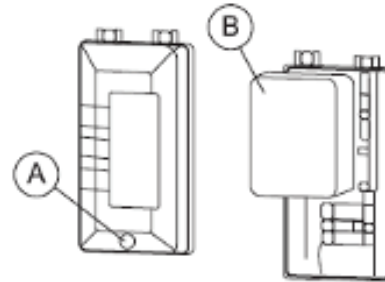

Figure-13 Air Filter Assembly
- Unscrew the filter attachment screws (A). See Figure-13.
- Carefully remove the pre-cleaner and wash it with liquid detergent and water. And then Squeeze dry in clean cloth (DO NOT TWIST). (B). See Figure-13.